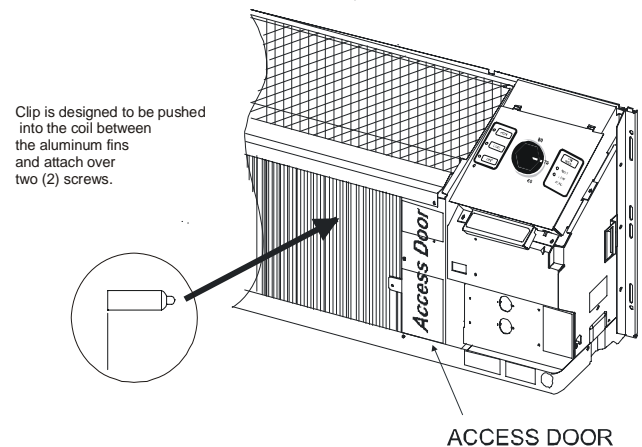
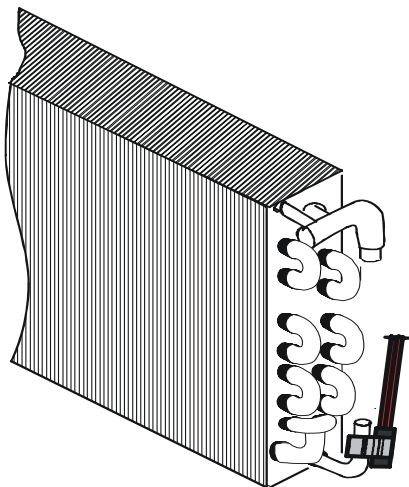

Figure 6
Figure 7
- B. If the existing **Indoor Ambient Thermistor** (with the **BLACK** wires) was connected to the board by a plug-on connector, reconnect it to the new board on the **IAT** (black) terminals. If the existing Indoor Coil Thermistor was soldered to the previous board, install the new black thermistor per Figure 6 and connect as above.
C. If the existing **Indoor Coil Thermistor** (with the **RED** wires) was connected to the board by a plug-on connector, reconnect it to the new board on the **ICT** (red) terminals. If the previous board used indoor coil bi-metals, remove and discard the bi-metal devices. The access door will need to be removed on the indoor coil to gain access to the bi-metal. See Figure 6. The Indoor Coil Thermistor will need to clip on the vertical section of the 90-degree bend of the inlet line to the indoor coil. See Figure 7. Connect the Indoor Coil Thermistor to the board as noted above.